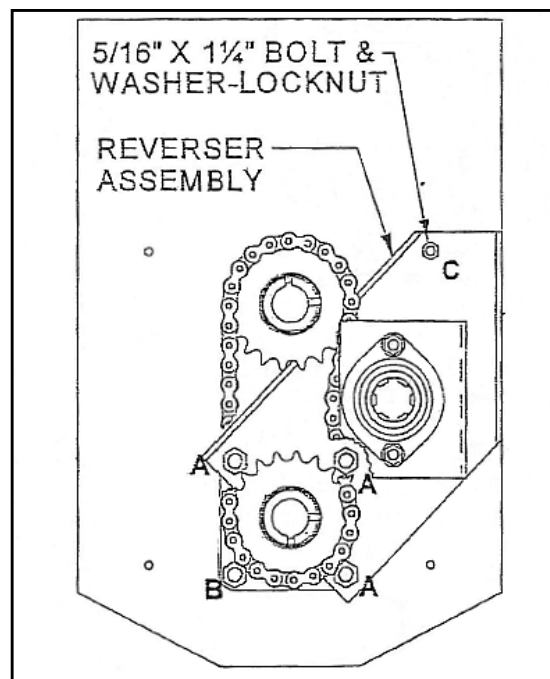

Figure 1
1. Remove the three locknuts at lower bearing marked A (Figure 1).
5. Place the spacer (1/2" locknut) behind the reverser assembly at position C (Figure 1 and 2), then loosely install the 5/16" x 1-1/4" bolt and washer-lock nut.